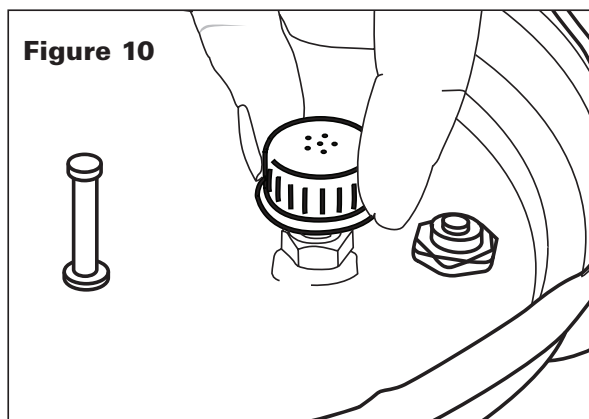

Figure 10
8. Rinse the upper and underside of the lid with warm water and remove the Pressure Release Valve Cover by twisting and pulling off. Dry thoroughly and replace the Pressure Release Valve Cover by clipping it back into place (see fig. 10).